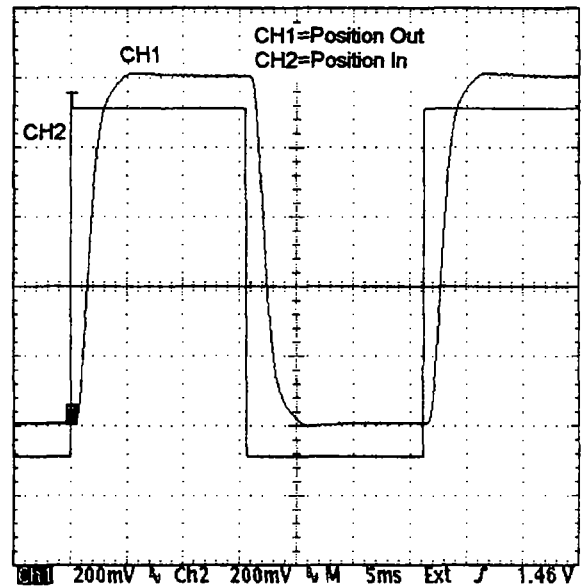

Figure 3.
9. Turn R25 CW the first undershoot is minimized, i.e. at the same amplitude as the settled position. See Figure 3.